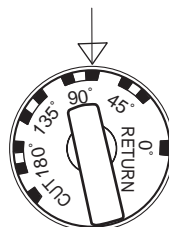
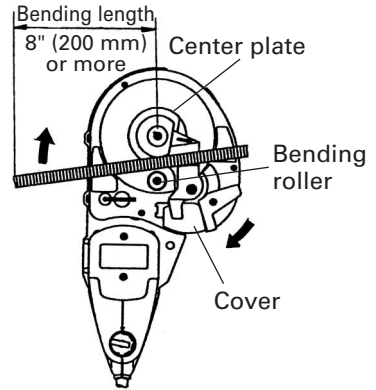
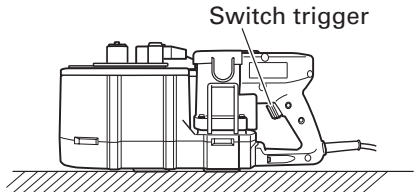

Fig. 13
Fig. 14
Fig. 15
In bending the rebar of #3(3/8"), #4(1/2"), and #5(5/8") diameters, a difference takes place in the bending angle even in the same dial position depending upon the difference of rebar's thickness. Slightly change a position of the setting dial depending upon the rebar's diameter even with the same bending angle as shown in Fig. 13.
- (1) Set the unit in the position with the turntable up as shown in Fig. 14.
- (2) Make sure that the cover is closed.
- (3) Set the setting dial at the desired angle. (Fig. 13)
- (4) Place the rebar on the center plate and set it correctly as shown in Fig. 14.
- (5) Pull the switch trigger and bent the rebar.
- (6) Continue pulling the switch trigger until the motor makes reverse rotation and the bending roller starts to return. (Once the bending roller starts to return, it will automatically return all the way to the home position even if the switch trigger is released.)(Fig. 15)
**If the bending length is not long enough, the rebar can come off during bending operation, or it can break into fragments and scatter dangerously. (Fig. 14)**